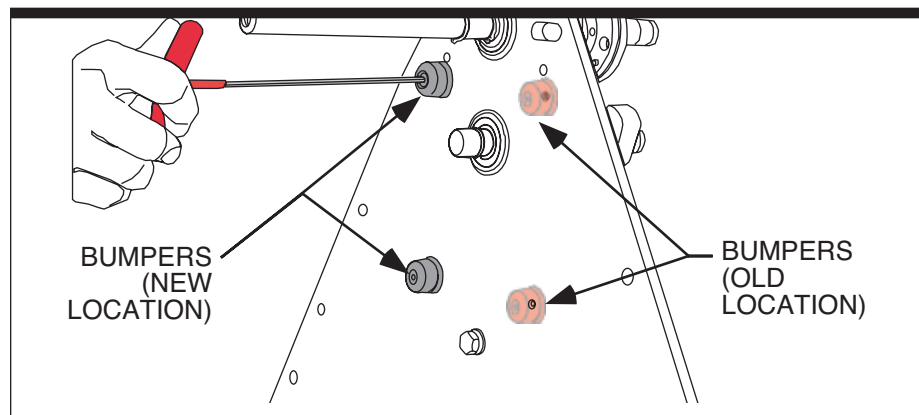

Figure 4-29. Dancer Arm Bumpers on Front of Labeler
- Step 35.** Relocate the dancer arm bumper(s) to the other side of the front plate (refer to Figure 4-29).